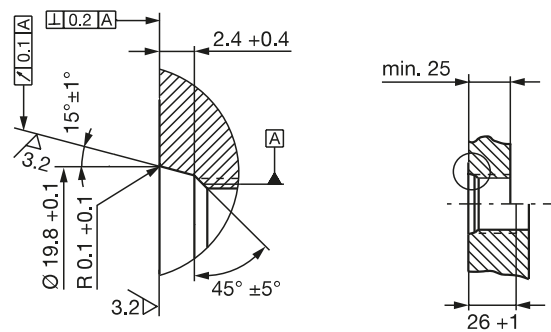
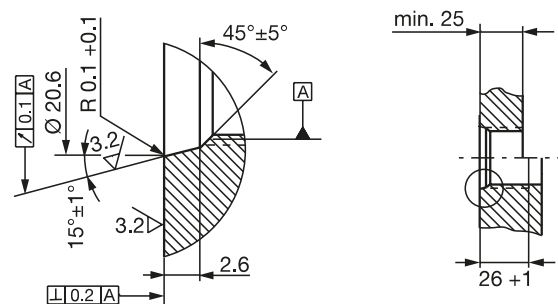

Fig. 4-3: Mounting hole M18x1.5 per ISO 6149 O-ring 15.4x2.1
Fig. 4-4: Mounting hole 3/4"-16UNF per SAE J475 O-Ring 15.3x2.4
- ▶ Make a mounting hole with thread (possibly with countersink for the O-ring) acc. to Fig. 4-3 or Fig. 4-4.